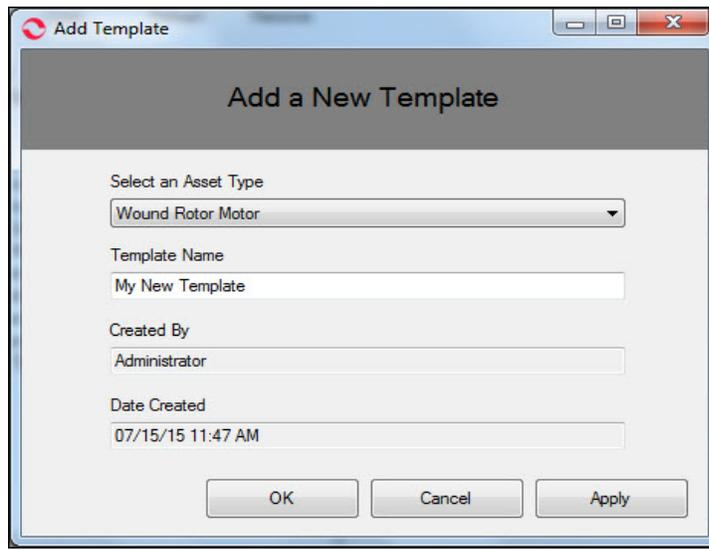

Figure 3-9: Add Template
2. Select the asset type from the drop-down list in the Add Template window shown in Figure 3-9. To access the drop-down list, click on the down arrow on the right of the box.